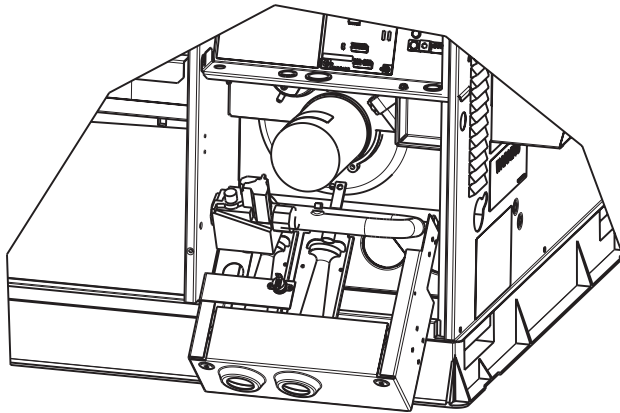

Fig. 25 – Burner Rack Removed
3. Slide the assembly out of the unit. (See Fig. 25). Clean the blower wheel. If additional cleaning is required, continue with Steps 4 and 5.
8. Partially slide the burner rack out of the unit (see Fig. 22 and Fig. 25). Remove ignitor and sensor wires at the burner assembly. Remove wires to rollout switch.
9. Slide the burner rack out of the unit (See Fig. 22 and Fig. 25).